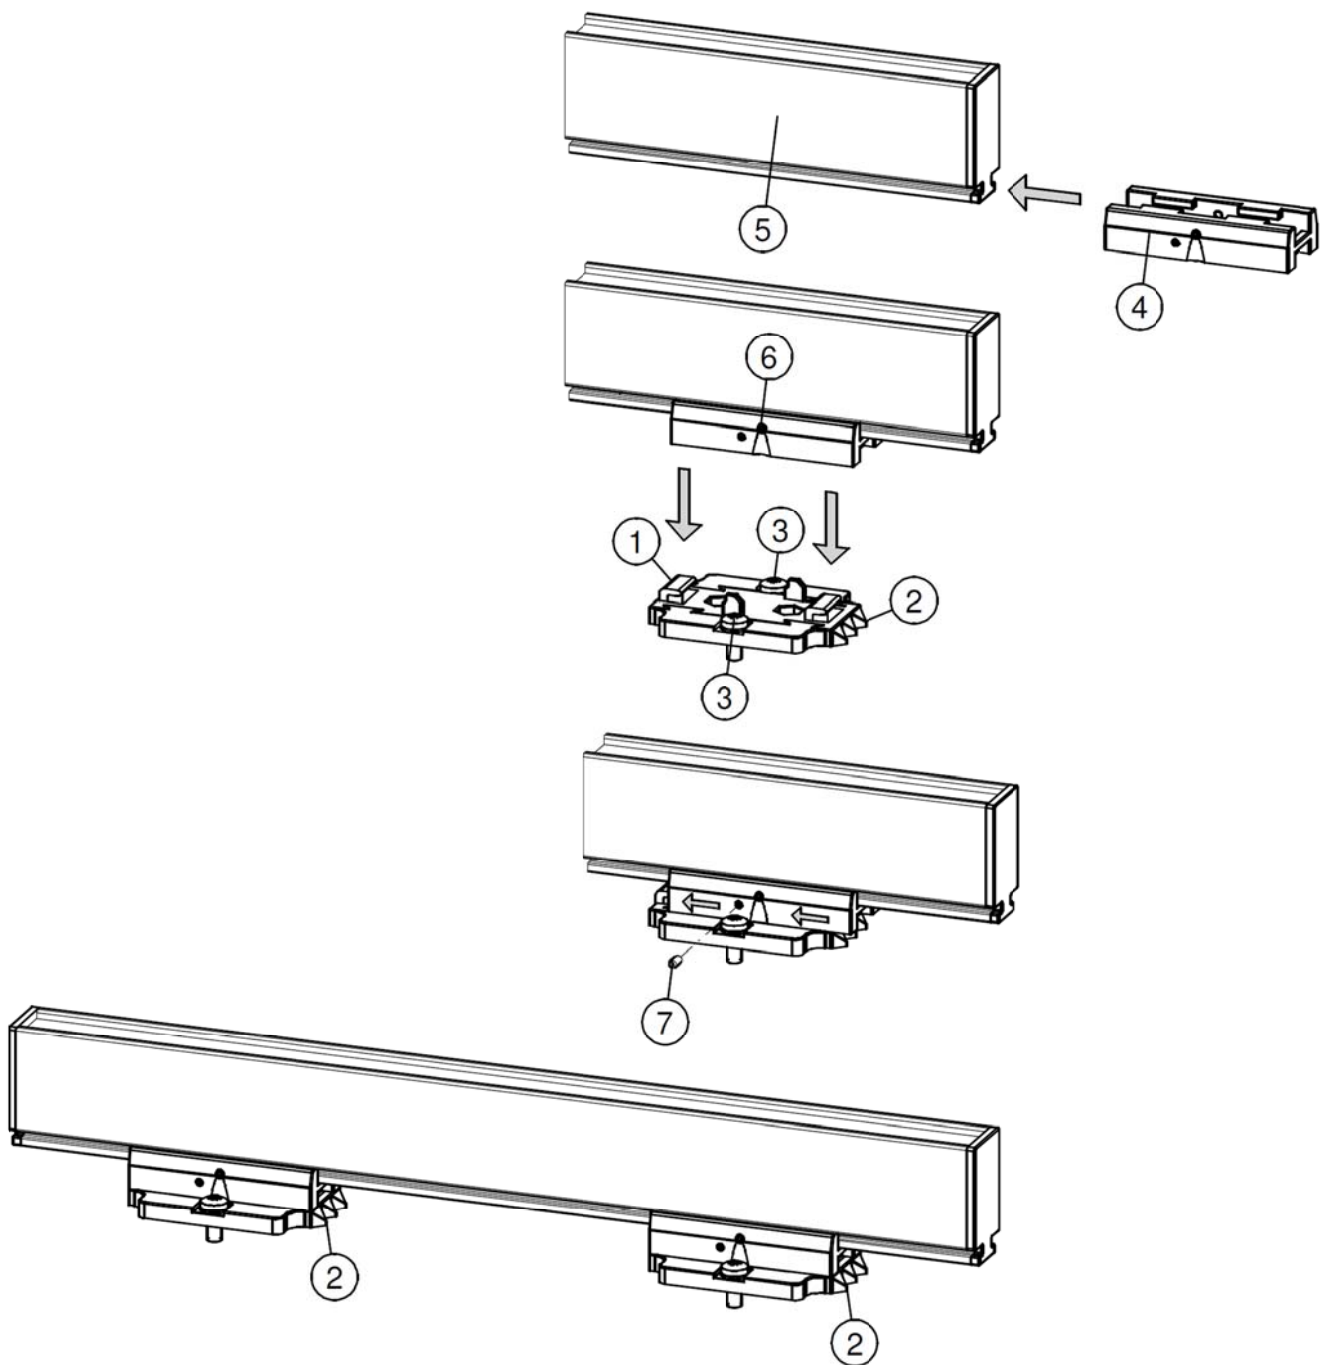

Figure 5: Fixing anti-static bar with mounting brackets
- Attach the mounting feet (1) to the machine. The triangles (2) have to point in the same direction. Use appropriate M5 mounting material (3) for mounting.
- Slide the brackets (4) onto the anti-static bar. Keep spacing(s) of the brackets (4) and mounting foot (1) equal and lock the bracket (2) with the set screw (6).
- Lock the anti-static bar in the mounting feet by screwing the two adjusting screws (7) into the brackets. With more than two brackets, only the two outer brackets need to be locked.
- Unscrew the adjustable screws (nr.6) from the brackets. (see figure 5).